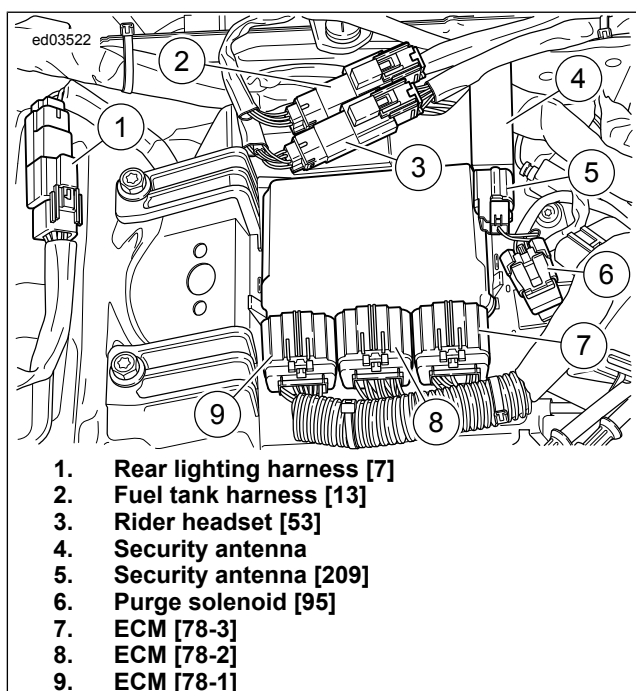

Figure 2. Under Seat: FLHT
- Locate the six-way rear lighting harness connector [7] in the area under the seat. See Figure 2. Disconnect the rear lighting harness from the main harness.